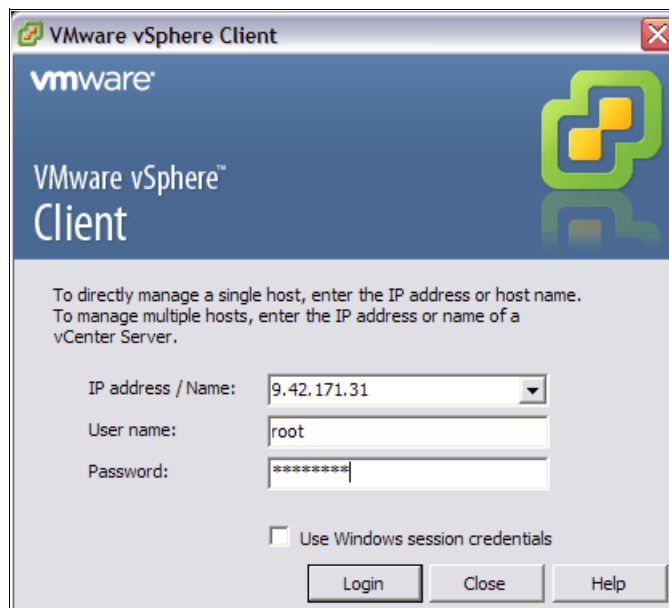

Figure 22-47 ESX vSphere Client
11. Using the vSphere Client shortcut, launch the application. Type the IP address or the Hostname of the newly created VMware ESX Server as shown in Figure 22-47 and click **Login**.